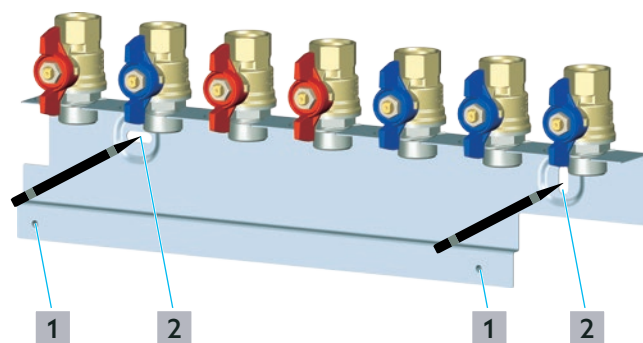

Fig. 6: Installation of the ball valve connection set
- 5 Screw the threaded bolts into the retaining plate (position **1** in Fig. 6 on page 16).